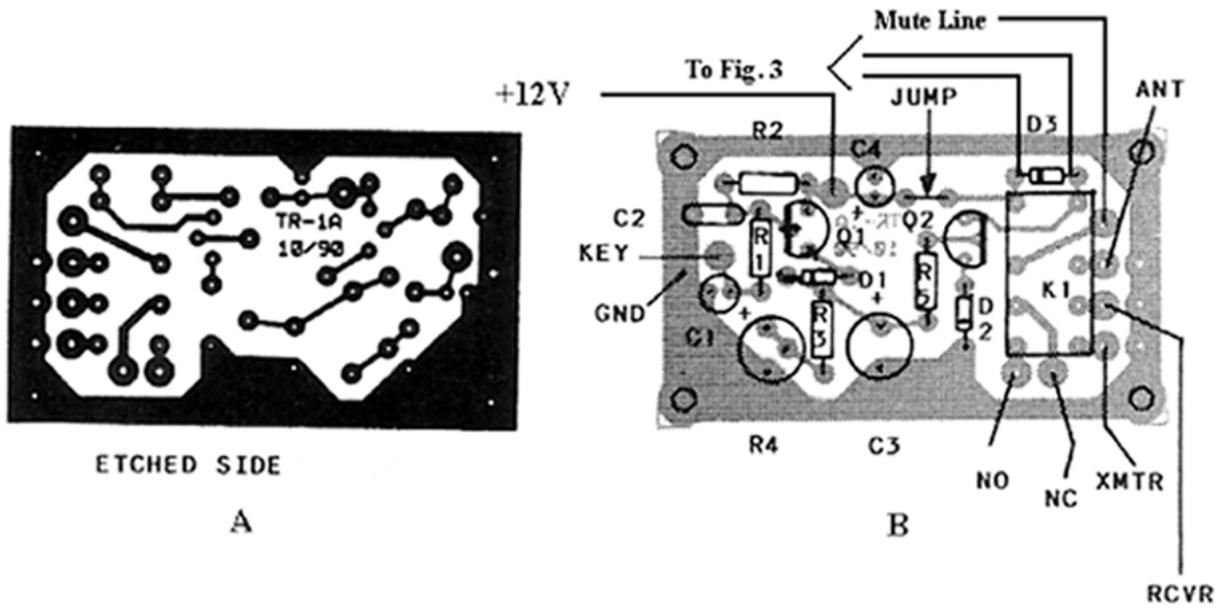
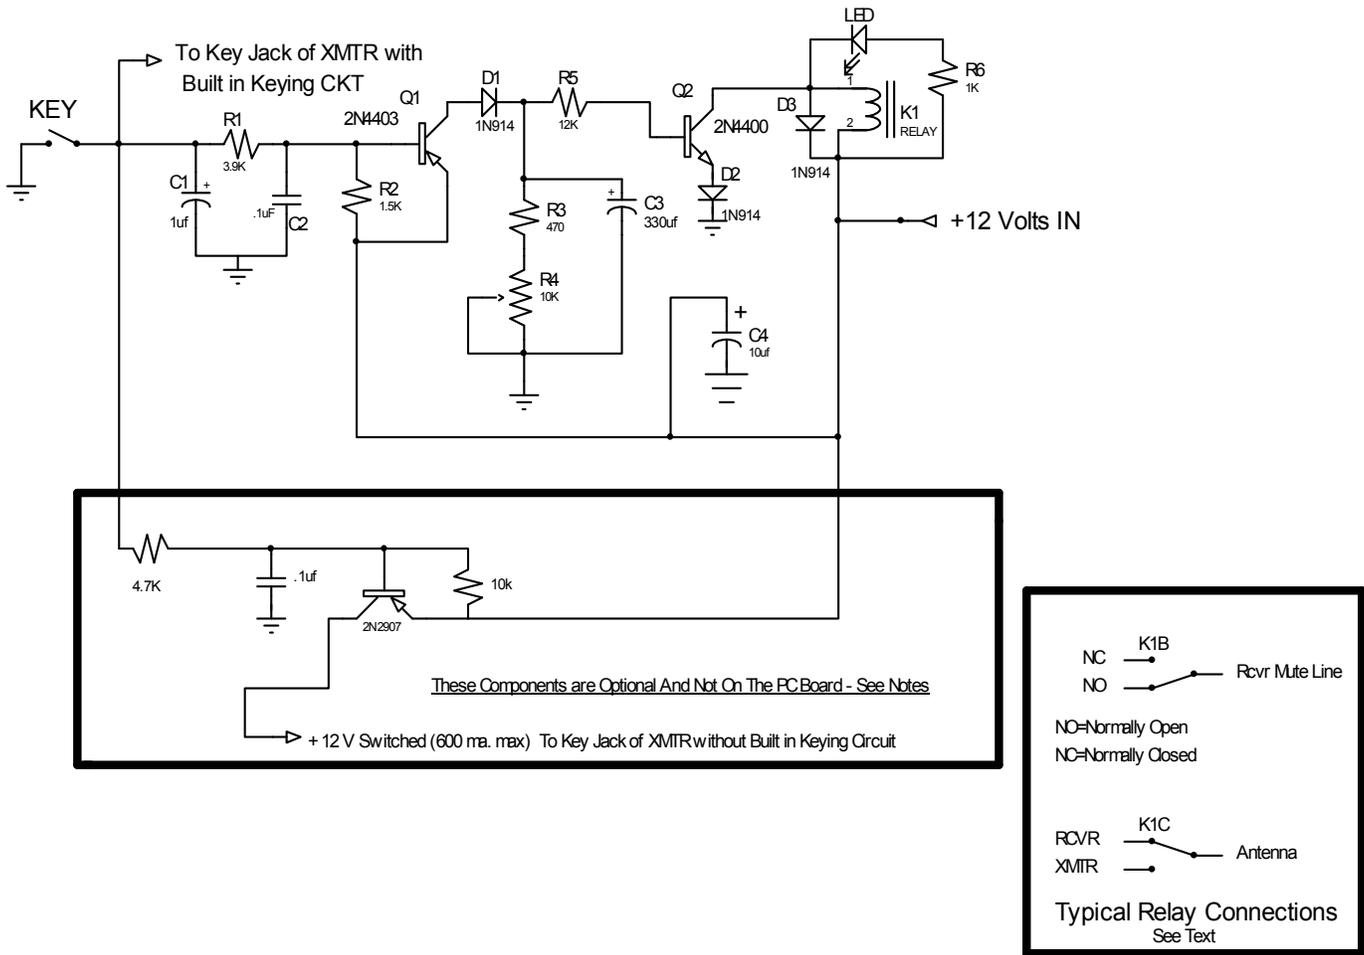

Fig. 1
Fig. 2
The circuit board is not marked with component locations, so orient the circuit board per fig. 1 and review the component locations. Be sure to note that all parts are mounted on the non-etched side and soldered on the etched side.
- Install electrolytic capacitors C1, C3 and C4....Form leads if required and make sure that you observe the correct polarity. The short lead is normally the negative lead and should go to ground. Double-check these using fig. 1 and the schematic diagram (fig. 2). Be sure the proper value capacitor is in the proper location and the polarity is correct.
- Install D1 and D2.....Form the leads as required, and be sure to install with the banded (cathode) end as shown in fig. 1.
- Install Q1 the 2N4403 transistor.....Form the leads as required. Be sure that the flat side of the transistor faces as shown in fig. 1.
- Install Q2 the 2N4401 (or 2N4400) transistor.....Form the leads as required. Be sure that the flat side of the transistor faces as shown in fig. 1.
- Install the jumper from near C4 to near Q2, as shown on fig. 1. (this jumper can be formed from one of the cut off component leads)
- Install D3.....Be sure to install the banded (cathode) end as shown in fig. 1. Be sure to read the above note
- Install hook-up wire for + 12 volts and ground. (see fig. 1)
- Install hook-up wire for R4. Run one lead from one of the two holes at the end of R3 and the other to ground. See the component outline for R4 on fig. 1. Remember, if you are following recommendations, do not mount R4 to the board, just run the hook-up wire and solder to the appropriate terminations on R4 as shown on the schematic diagram fig. 2. (The ground connection should connect to the center and left terminal of the pot as viewed from the shaft side)
- Solder a length of hook-up wire to the Key connection near C1,C2 (see fig. 1)
For those people who need to Key +12 volts to a transmitter without a built in keying circuit, the circuit in Appendix A may be installed in the transmitter. Alternately it may be built into the GUPPY using the connections shown in fig 2.
The following diagram is just an example of how to wire all 3 kits into one “Genuinely Useful Practical qrp accessory”. Please pay attention to the diagram of K1B on Fig. 2. Several possibilities exist here, such as, opening the receiver audio on transmit or grounding the receiver antenna on transmit etc.